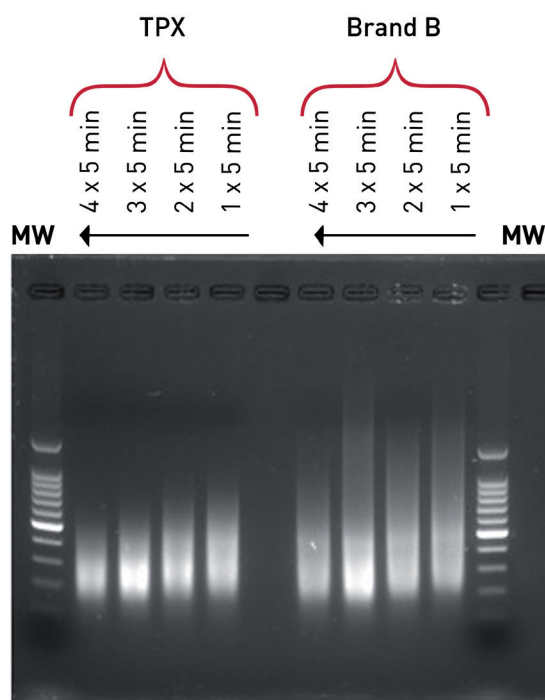

Figure 1: Superior chromatin shearing results obtained with Diagenode's TPX 1.5 ml tubes compared to standard 1.5 ml tubes
- From 100 – 300 µl: 1.5 ml tube holder for Bioruptor® Standard & Bioruptor® Plus (Cat. No. UCD-pack 1.5) with 1.5 ml TPX microtubes for Chromatin shearing (Cat. No. M-50001) (Figure 1).